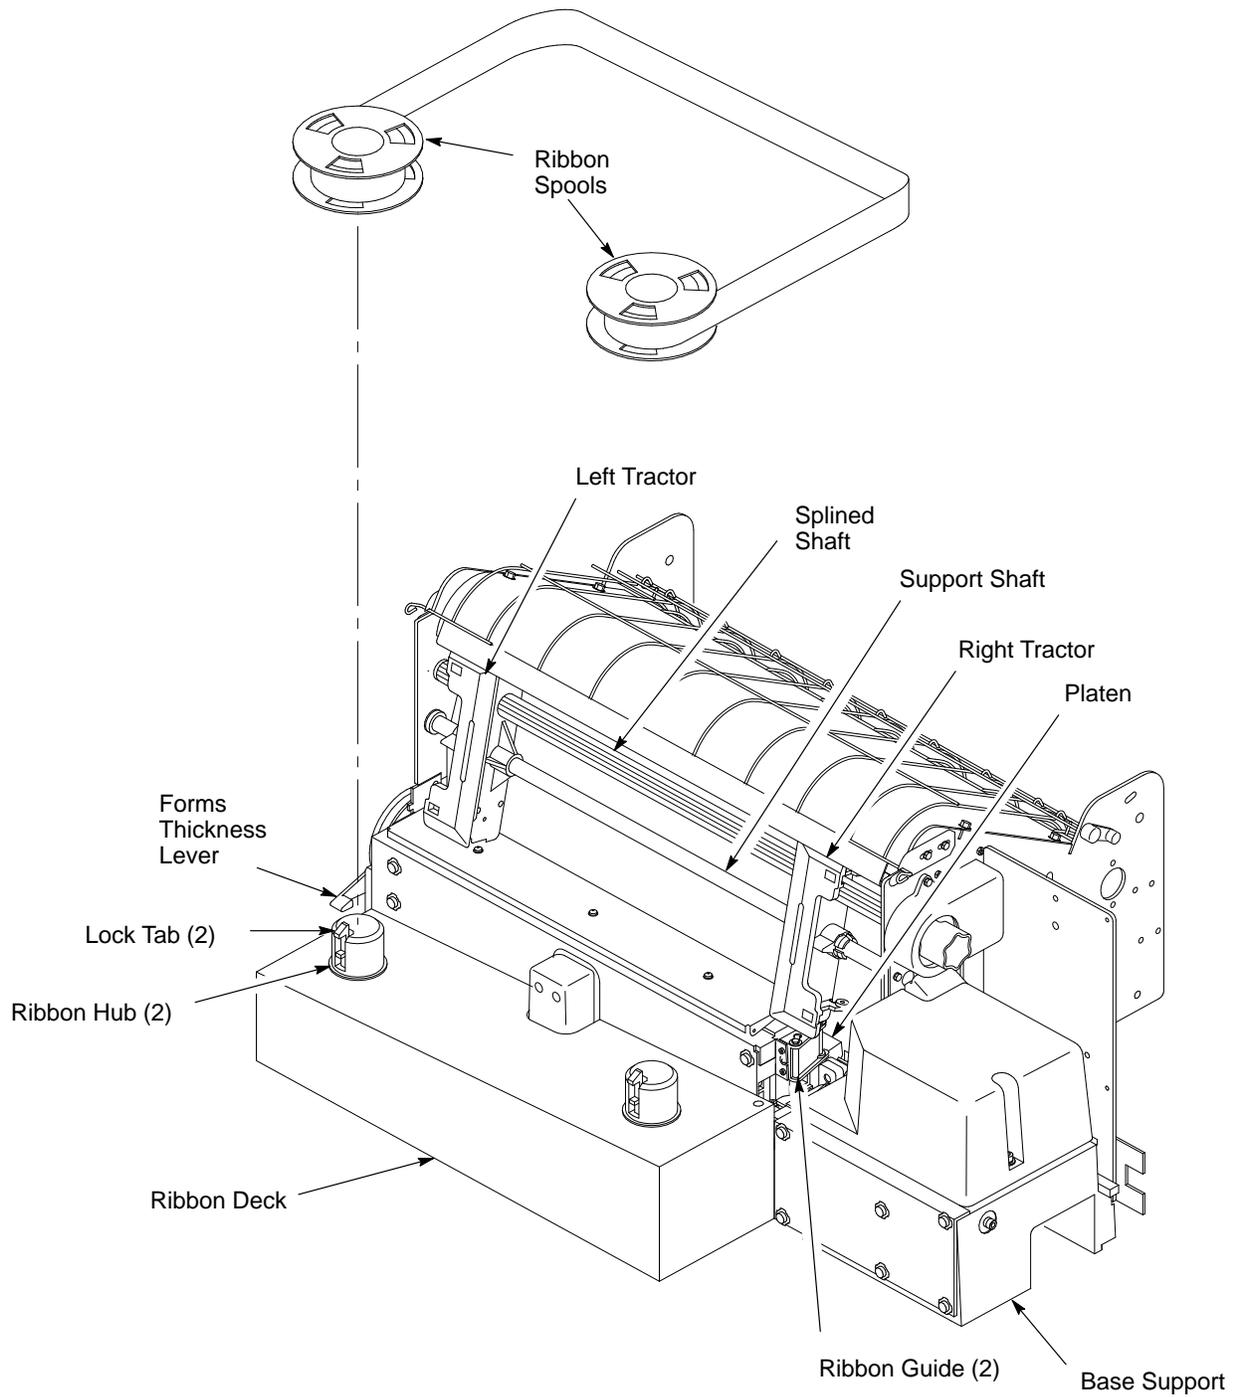

Figure 3-1. Cleaning Interior of Cabinet
7. Open the forms thickness lever all the way. (See Figure 3-1.)